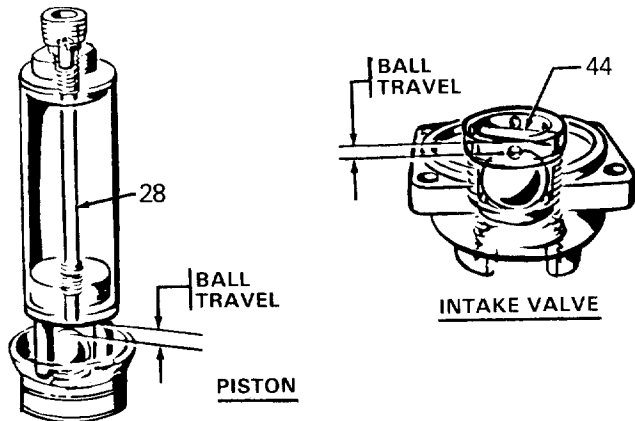

Fig 3
1. If extremely heavy paint is used and erratic pump operation develops, increase ball travel in intake valve by moving pin (44) to center or upper set of holes (according to viscosity of paint) and in piston valve by backing out ball stop screw (28) two complete turns or 0.28 in. (7 mm) total travel. See Fig 3.
2. If extremely light paint is used and surging develops, reduce surging effect by screwing in ball stop screw (28) two complete turns or 0.09 in. (2 mm) total travel at piston valve. Refer to Fig 3.